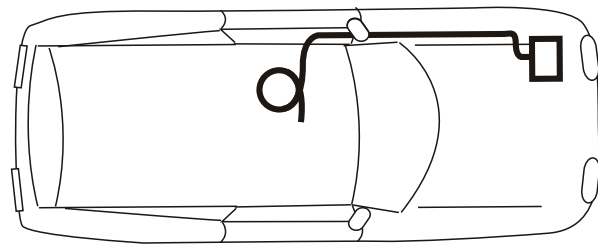

Figure 4-2
3. Run the vehicle harness under and, when possible, through the vehicle back to the rear cargo area / trunk, gaining entry into the vehicle through the firewall. *See Figure 4-2.*